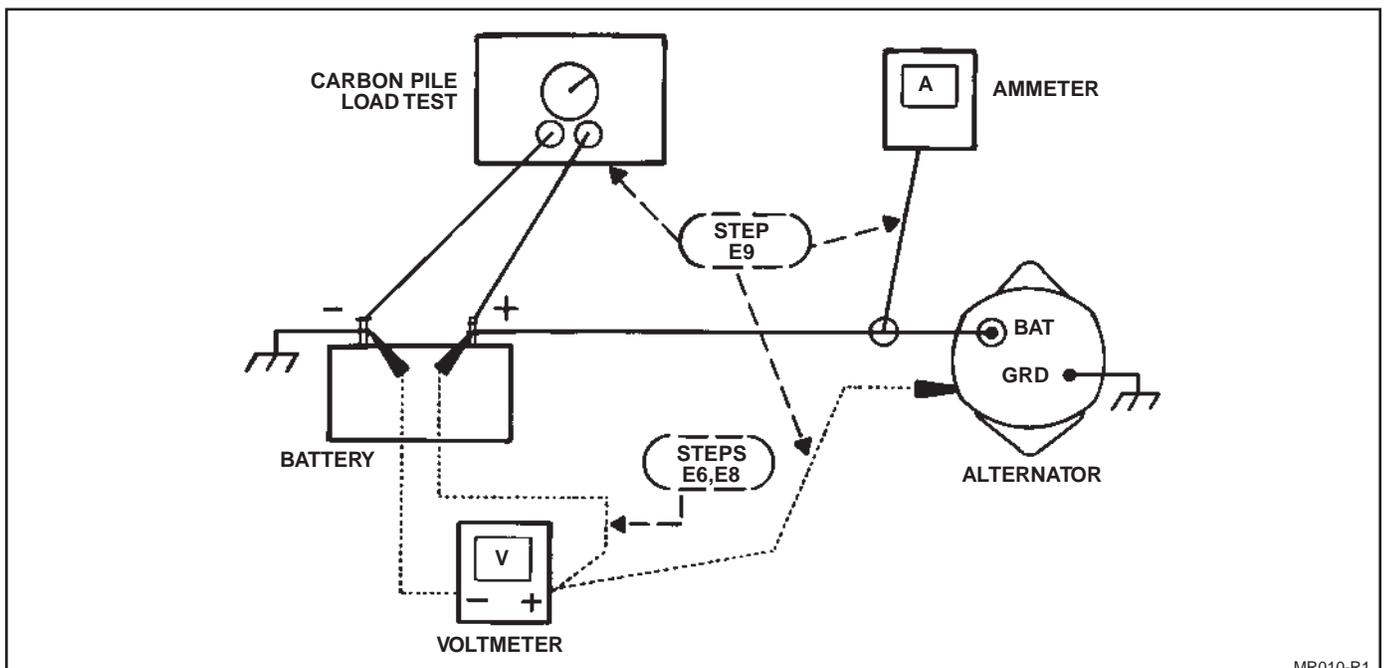

Figure 11. Rated Output Check
- Refer to Fig. 11 for test equipment hookups as described in following steps. If inductive pick-up ("clamp on") type ammeter is used, place current clamp on alternator output lead and skip to step 4. If series ammeter is used, disconnect negative battery cable at battery.